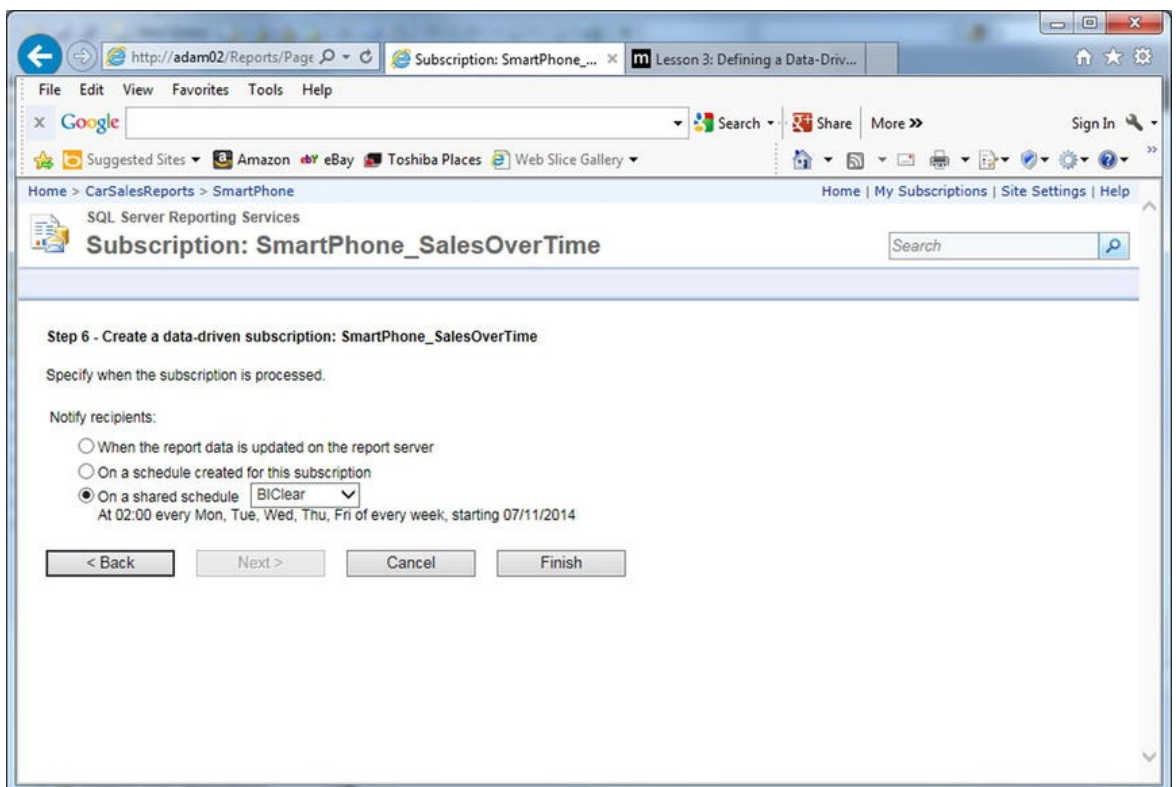

Figure 12-21. Applying a schedule to a data-driven subscription
14. Apply or create a schedule just as you did previously when caching a report. The browser window will look like Figure 12-21. In this case, I am using a shared schedule. You saw how to create these earlier in this chapter.